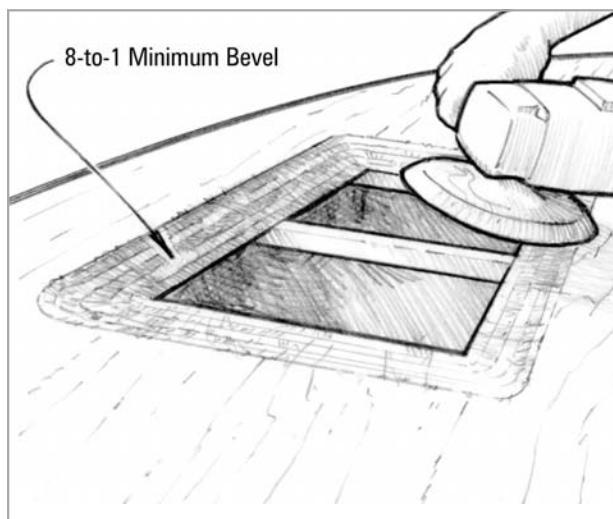

Figure 5-12 Cut out the damaged area and grind a minimum 8-to-1 bevel on all sides of the opening.
- a. Grind a scarf on the edges with a disc sander (*Figure 5-12*). Grind a minimum 8-to-1 bevel back from the edges of the opening. (If the panel plywood is ½" thick, the bevel should extend at least 4" from the edge of the hole on each side.)